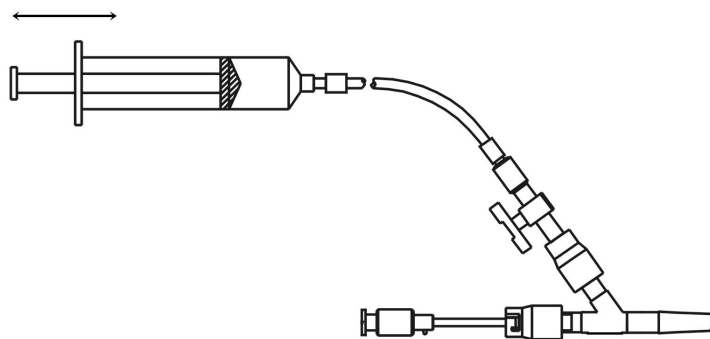

Fig. 8 Venting the three-way stopcock balloon Catheter
- b) **Three-way stopcock type** Open the injecting port. Inject saline into the catheter slowly while the balloon is placed at a lower position. Suck the saline out while the balloon is Inflated. If necessary repeat this procedure until all air is removed. Then close the injecting port (see fig. 8).